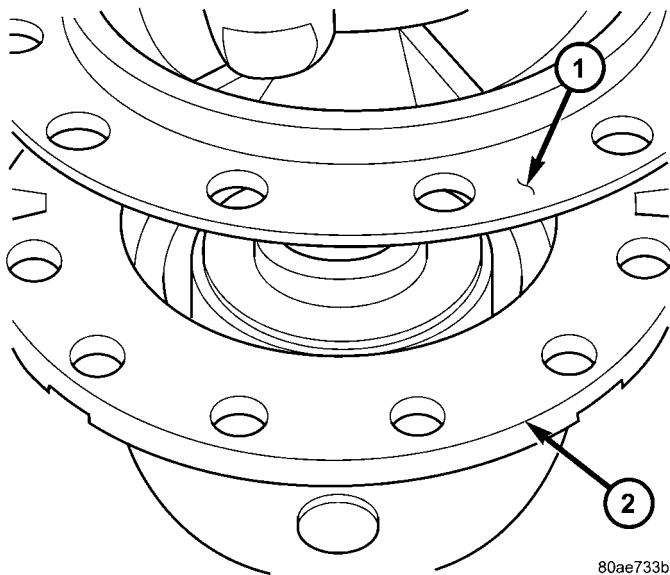

Fig. 194 Diff Support Installation
(7) Install differential support into position, while aligning through-holes (Fig. 194).